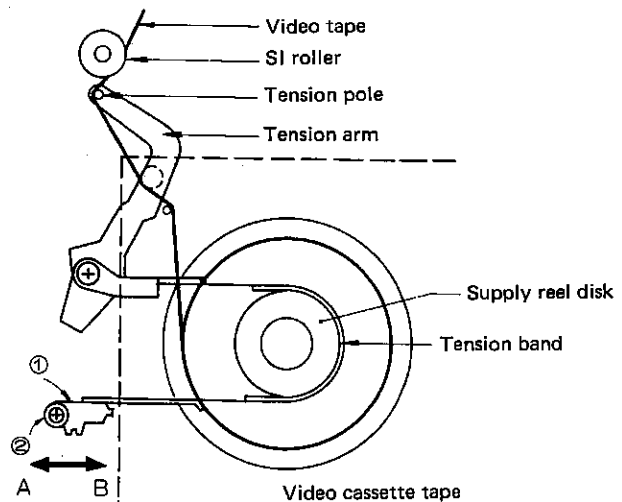

Figure 20.
1. If the distance between the tension pole and supply impedance roller, measured at their centers, is smaller than 0.5 mm, move tension band adjusting angle ① in the direction of B (see Figure 20) then tighten screw ②.
2. If the distance between the tension pole and supply impedance roller, measured at their centers, is greater than 1.0 mm, move tension band adjusting angle ① in the direction of A (see Figure 20) then tighten screw ②.